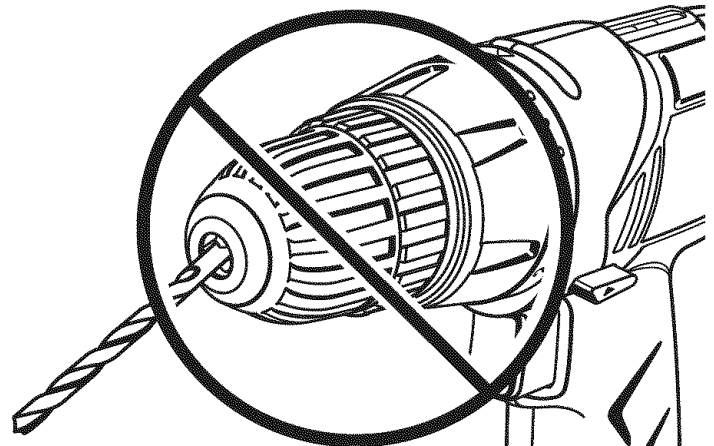

Fig. 10
**⚠ WARNING:** Make sure to insert the drill bit straight into the chuck jaws. Do not insert the drill bit into the chuck jaws at an angle then tighten, as shown in figure 10. This could cause the drill bit to be thrown from the drill, resulting in possible serious personal injury or damage to the chuck.